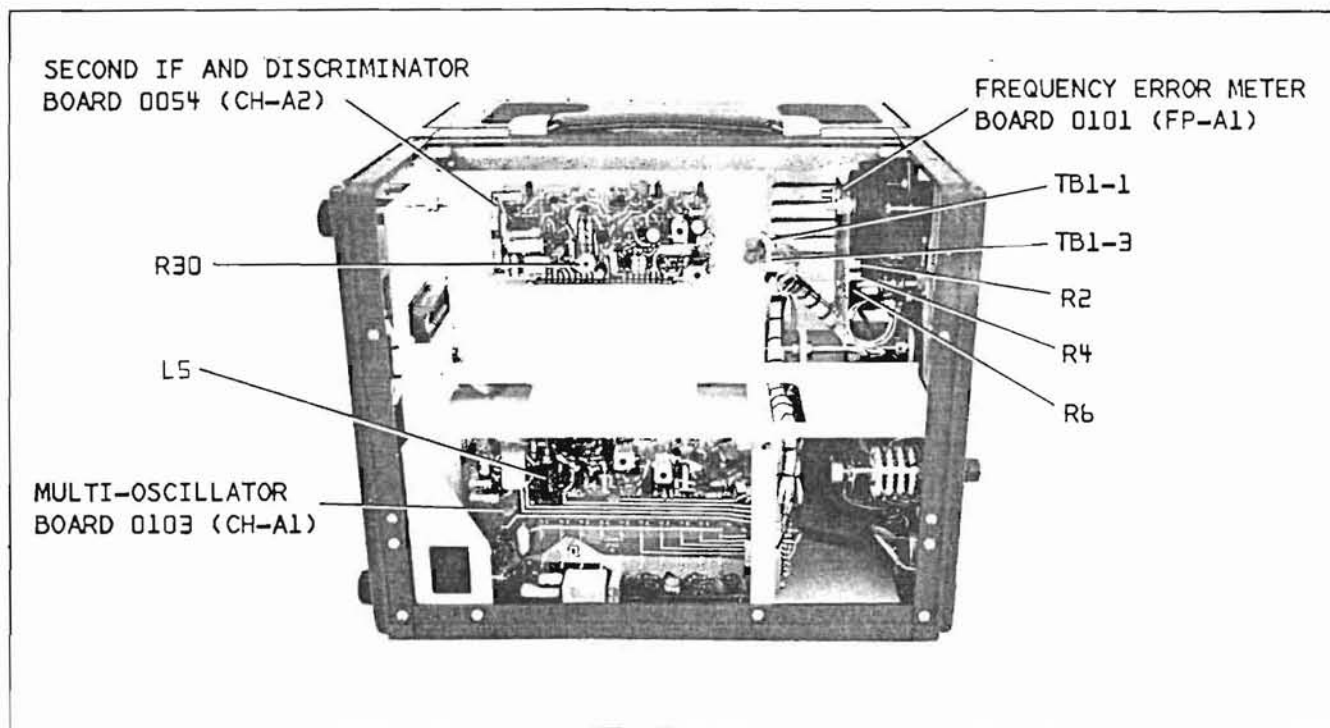

Figure 5-3. CE-7 Left Interior View Without Plug-In
3. Adjust R30 on the Second IF and Discriminator Board 0054 (CH-A2) for a zero reading on the FREQUENCY meter. Refer to Figure 5-3.
6. Adjust L5 on the Multi-Oscillator Board 0103 (CH-A1) through the access hole in the left frame of the chassis (remove FM Deviation Meter or Oscilloscope) for a zero reading on the FREQUENCY meter. Refer to Figure 5-3.
- d. On the Frequency Error Meter board 0101 (FP-A1) mounted on the back of the FREQUENCY meter are three potentiometers. The top one (R2) is for ± 0.5 kHz, the middle one (R4) for ± 1.5 kHz, and the bottom one (R6) for ± 5.0 kHz. See Figure 5-3.